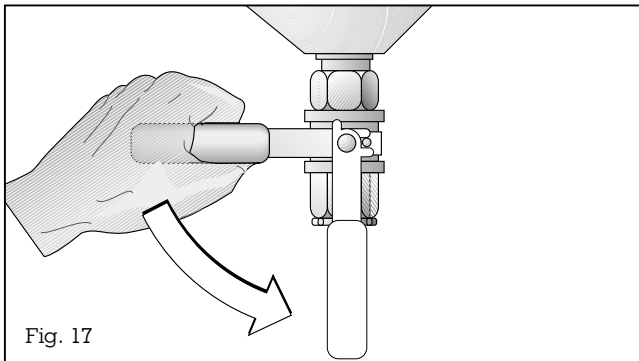

Fig. 17
- **The water** is drained off through the oil drain valve, which is located under the funnel-shaped base of the deep frying tub as follows: Unscrew the plastic cap from the drain valve and open the oil drain valve by turning the handle down (Fig. 17).